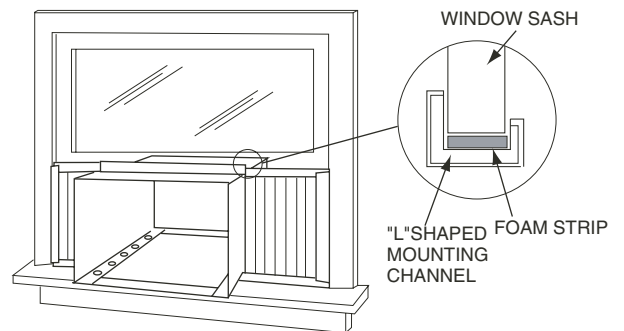

FIGURE 14 — CABINET LOCATION
15. Center the cabinet in the window. Lower the window sash until it rests firmly in the upper channel installed in Step 7. Make sure the top and bottom of the cabinet fits snugly to the window opening. Make sure the bottom channel fits into the groove in the bracket assemblies. See Fig. 14.